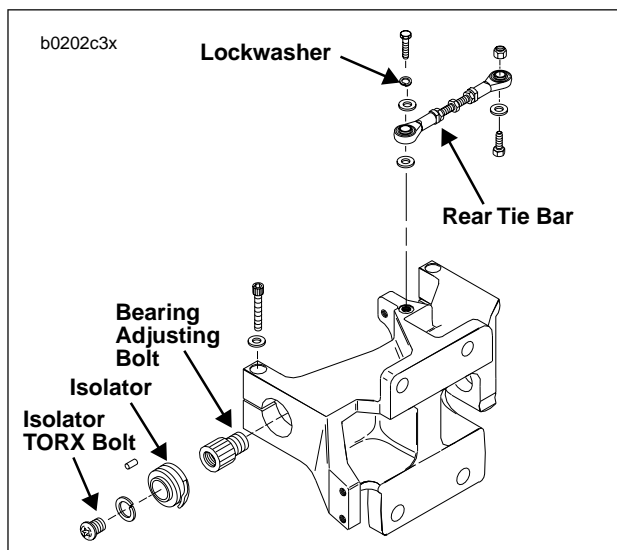

Figure 2-75. Mount Block
7. See Figure 2-75. Remove frame side tie bar mounting hardware from front lower and center tie bars. Leave fourth tie bar (front upper) attached to both frame and engine.
8. See Figure 2-75. Remove rear tie bar bolt, lockwasher and washers from mount block. Discard lockwasher.
9. See Figure 2-75. Loosen left side isolator bolt from swing arm bearing adjusting bolt. Do not remove.
10. See Figure 2-75. Remove right side isolator bolt and washer from swingarm bearing adjustment bolt. Discard isolator bolt, but retain washer.
10. See Figure 2-75. Install **new** isolator TORX bolts and washers through both rubber isolators into bearing adjustment bolts on each side.